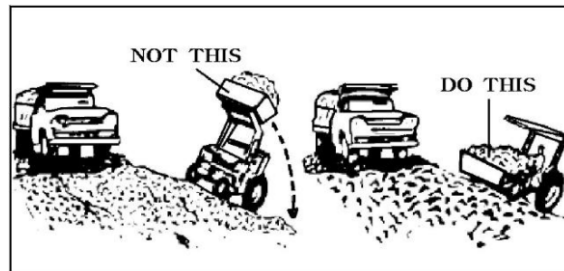

Fig 4.5. Operation during transportation
- When transporting the load, keep the bucket as low as possible to avoid tipping, in case a wheel drops in a rut shown in figure 4.5